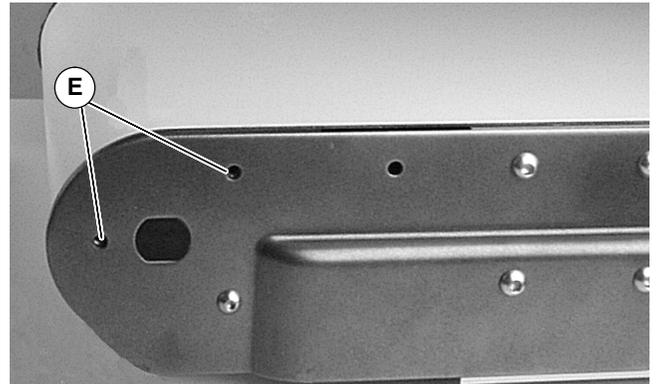

Figure 2
2. Remove and discard screws located in holes (E) of Figure 2) on each side of conveyor.